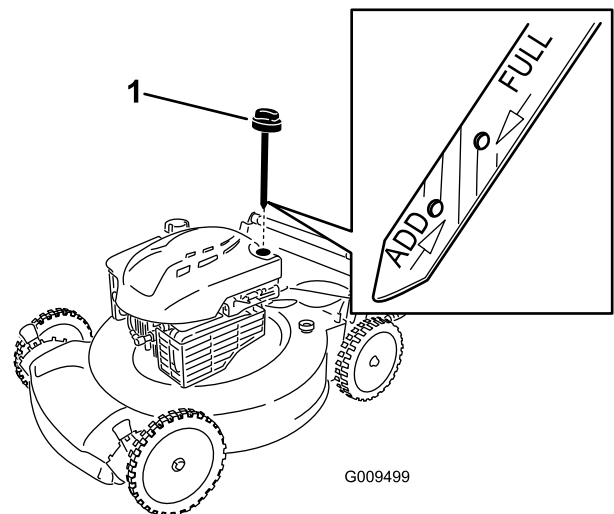

Figure 4
2. Remove the dipstick by rotating the cap counterclockwise and pulling it out (Figure 4).
Note: If the oil level is below the **Add** mark on the dipstick, **slowly** pour a small amount of oil into the oil fill tube, wait 3 minutes, and repeat steps 3 through 5 until the oil level is at the **Full** mark on the dipstick (Figure 4).